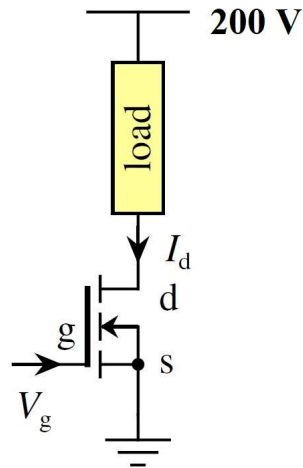

Fig.Q2
- Q2. Fig.Q2 shows a MOSFET acts as a low-side switch for a load whose power is controlled by pulse-width modulation (PWM). The parameters of the system are given in table Q2. Assume that components are ideal and that the current increases linearly while the MOSFET is on.